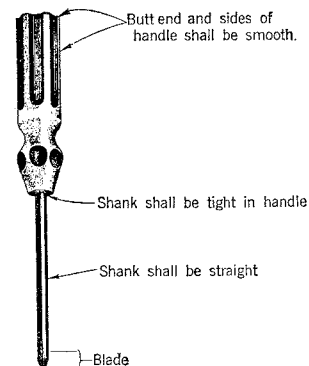

Fig. 1
2.01 Fig. 1 illustrates the B screwdriver and indicates the condition in which screwdrivers of this type shall be maintained for safe and satisfactory service. This screwdriver is furnished in three sizes as shown in the table in Paragraph 2.02. It is for general use with cross-recessed head screws of the Phillips type.